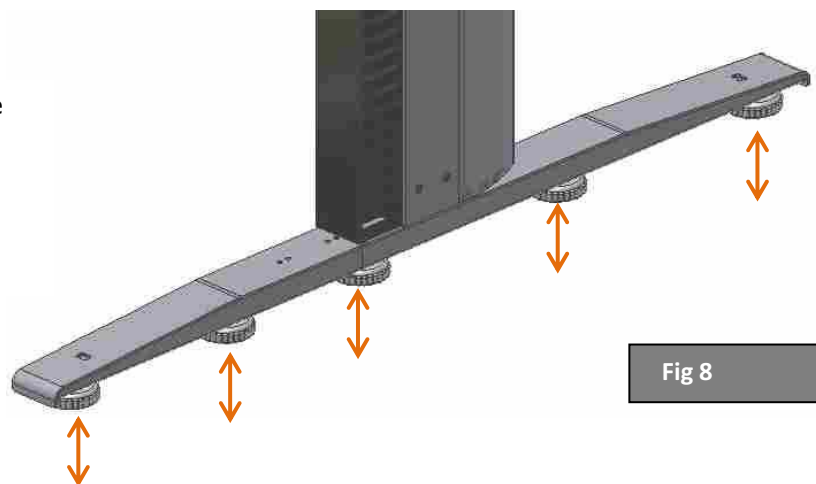

Fig 8
STEP 5 – Adjust the height of the **side** using the **levellers** of both **feet** (Fig. 8).